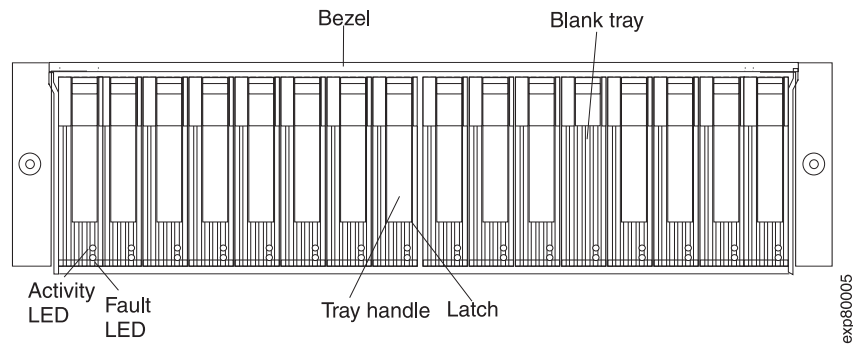

Figure 74. Hot-swap hard disk drive LEDs
2. Check for Fault LEDs shown in Figure 74 on page 113. If any amber LEDs are lit, see “Solving problems” on page 135.